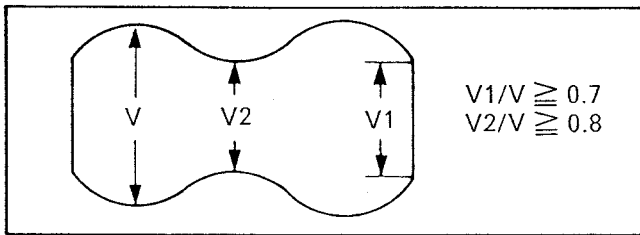

Fig. M13 Spec. of Envelope Figure
9. Turn the Tracking VR and adjust for maximum RF envelope. If the RF envelope does not meet these specs,  $V1/V$  0.7,  $V2/V$  0.8, then repeat steps 1-9 of item 3-2-5. again. (Fig. M13)